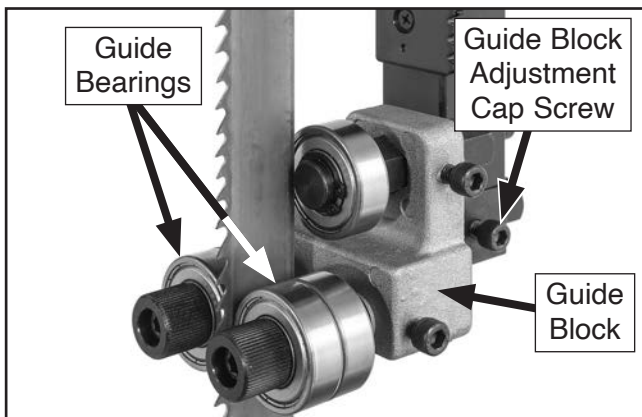
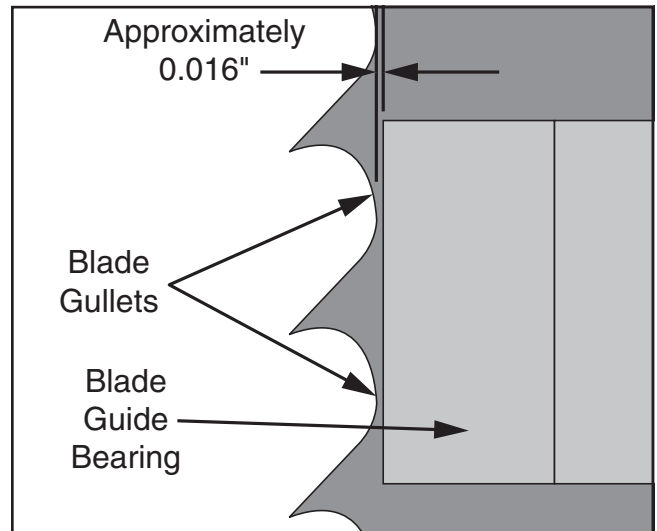

Figure 48. Upper guide bearing components (guide post cover removed for clarity).
Figure 49. Blade guide bearing positioned just behind blade gullets.
2. Loosen guide block adjustment cap screw shown in **Figure 48**, then position guide bearings just behind blade gullets, as illustrated in **Figure 49**. Retighten cap screw to secure setting.